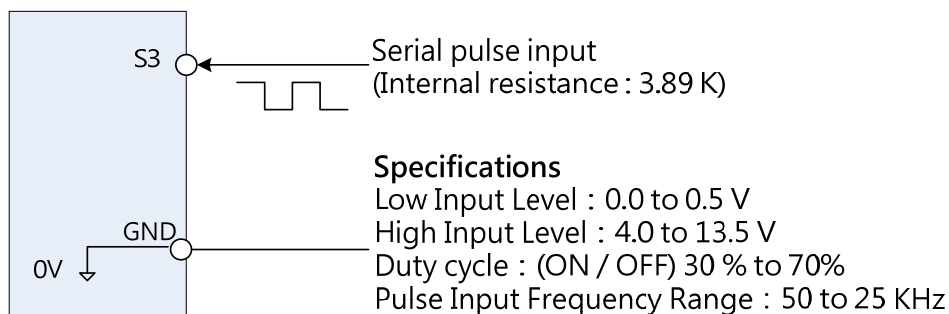

Figure 4.3.5 Frequency reference from pulse input
(4) 00-05/00-06=4
(5) 00-05/00-06=5
(6) 00-05/00-06=7
- To use this function a pulse train input is required to be connected to the PI input and GND, please refer the photo as Fig.4.3.5. PI input terminal, built-in resistance, is not required to connect the resistance if open collector input mode is used